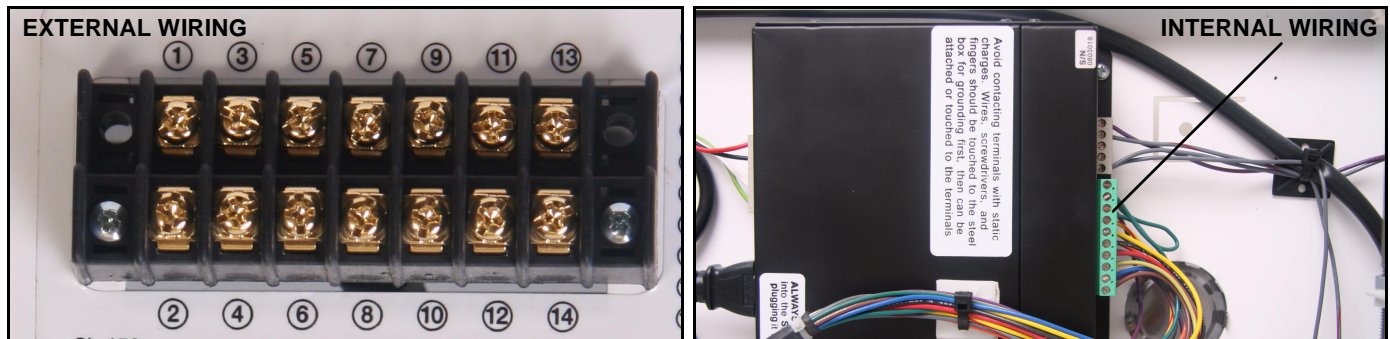

Figure 15
**NOTE:** Refer to Table 1: Wiring Table and (See Figure 15) for information on all wiring options.
**NOTE:** The numbers listed in the **SL151 Internal** and **SL151 External** columns refer to the corresponding numbers located where indicated in the wiring pictures. (See Figure 15)